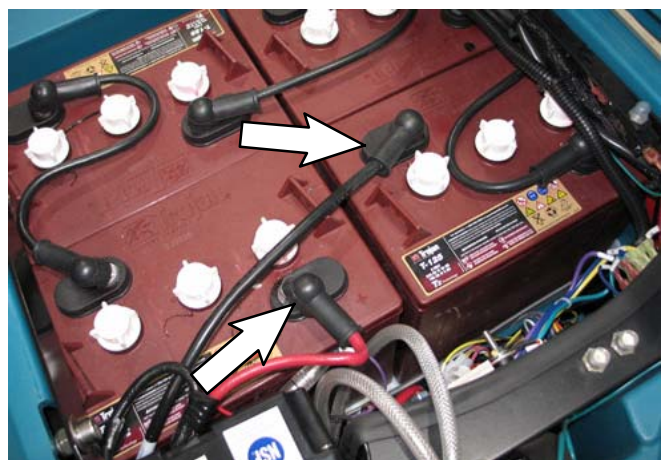

FIG. 27
30. Connect the negative battery cable (22) from the shunt assembly to battery pack. Connect the positive battery cable (25) from machine to battery pack (FIG. 27)